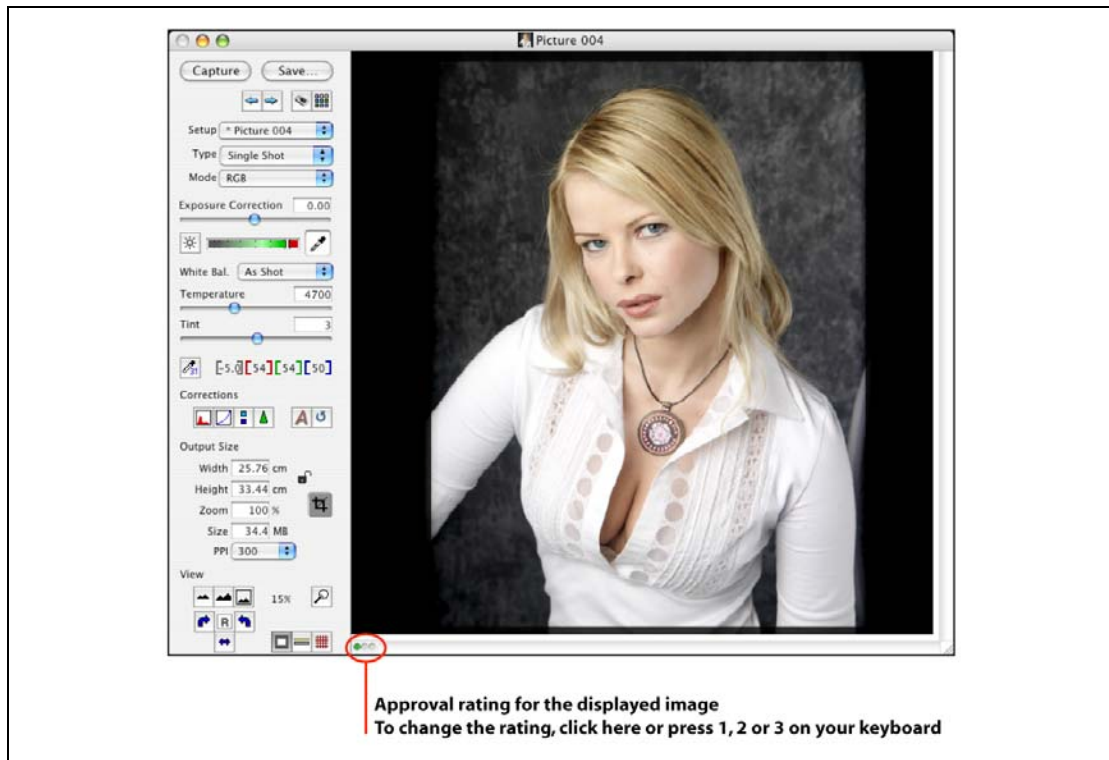

Figure 3: Approval-level display and control in the preview window
- You can view the panes horizontally, vertically or in a 2x2 square. Use the orientation pop-up menu to select between these options (see Figure 3, above).